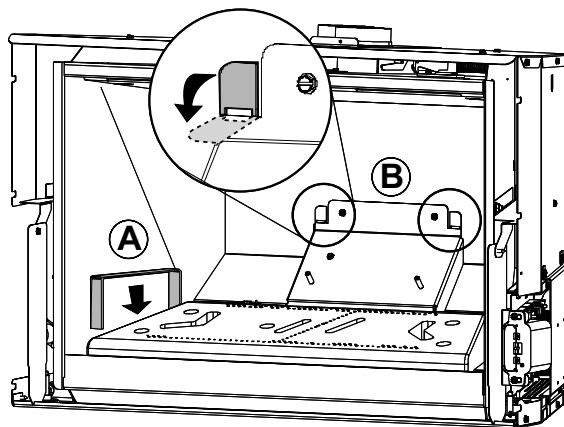

Fig. 7.10
1. Position each Panel Support Shelf (Fig. 7.10, A) on the firebox floor against the side walls.